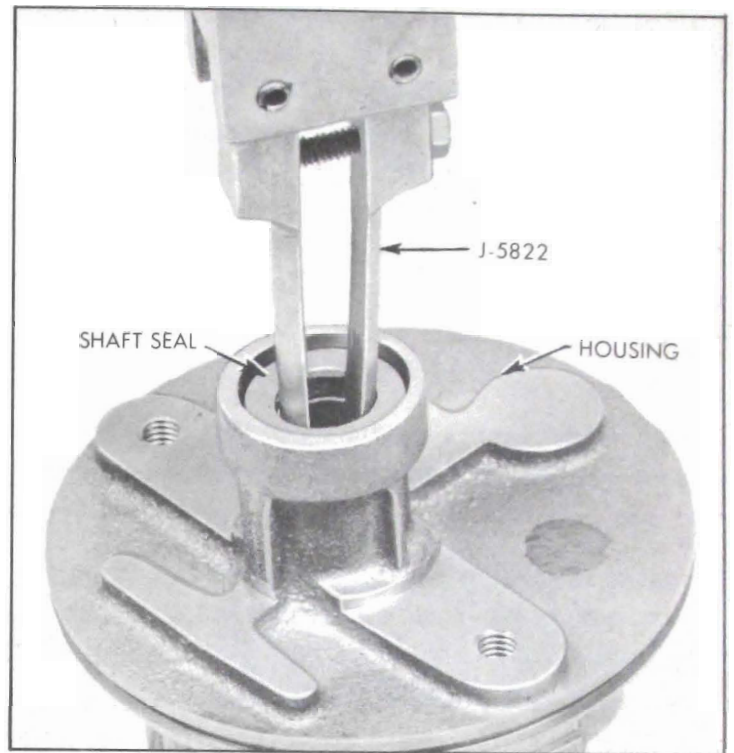

Figure 8-58—Removing Shaft Seal
14. Remove shaft seal, if defective, with Remover J-5822 installed on a suitable slide hammer. See Figure 8-58. Be careful not to expand remover on surface of housing bushing.